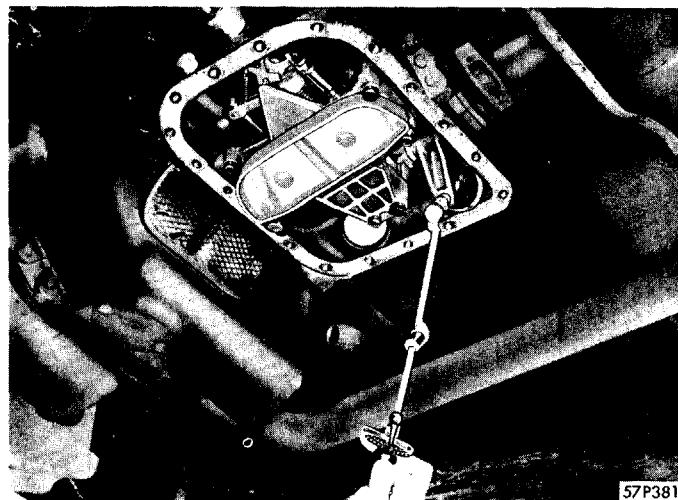

Fig. 6—Adjusting the Reverse Band (Typical)
(1) Drain transmission and remove transmission oil pan.
(2) Loosen reverse band adjusting screw locknut and tighten adjusting screw from 20 to 25 inch-pounds, as shown in Figure 6. Back out adjusting screw 12 turns. Holding adjusting screw in this location, tighten locknut securely (30-35 foot-pounds torque).
(3) Replace the transmission oil pan, using a new gasket and refill transmission with Automatic Transmission fluid (Type "A" Suffix "A").